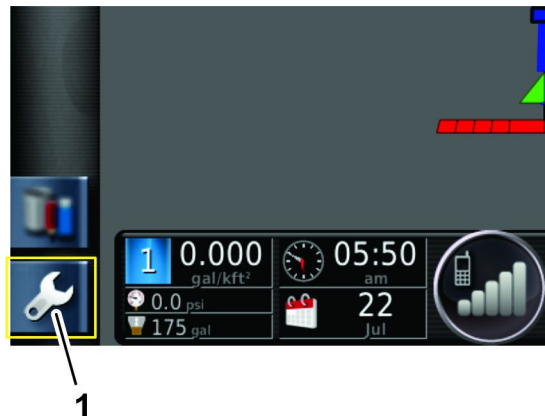

Figure 209
3. Press the SETUP icon on the main screen (Figure 209).